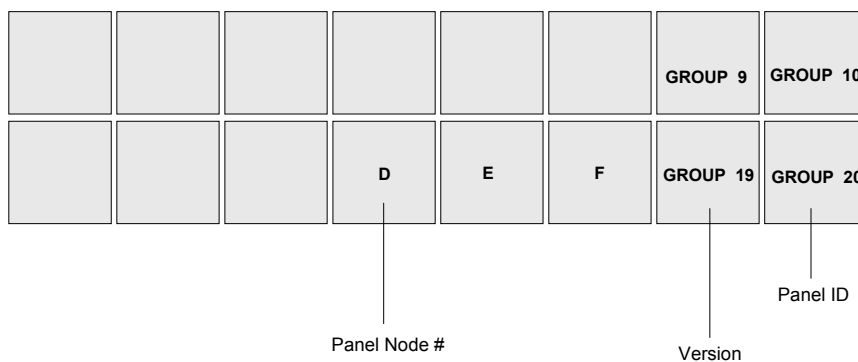

Figure 4-20. Keypad Buttons used for Miscellaneous Panel Modes
2. While holding, press one of the first seven keypad buttons, as shown in Figure 4-20. Button **1** is the brightest setting; button **7** is the dimmest setting.
2. While holding, press the **GRP 19** button as shown in Figure 4-20. In the **Source Display**, the panel's software version appears.
2. While holding, press the **GRP 20** button as shown in Figure 4-20. In the **Source Display**, the panel's ID appears.